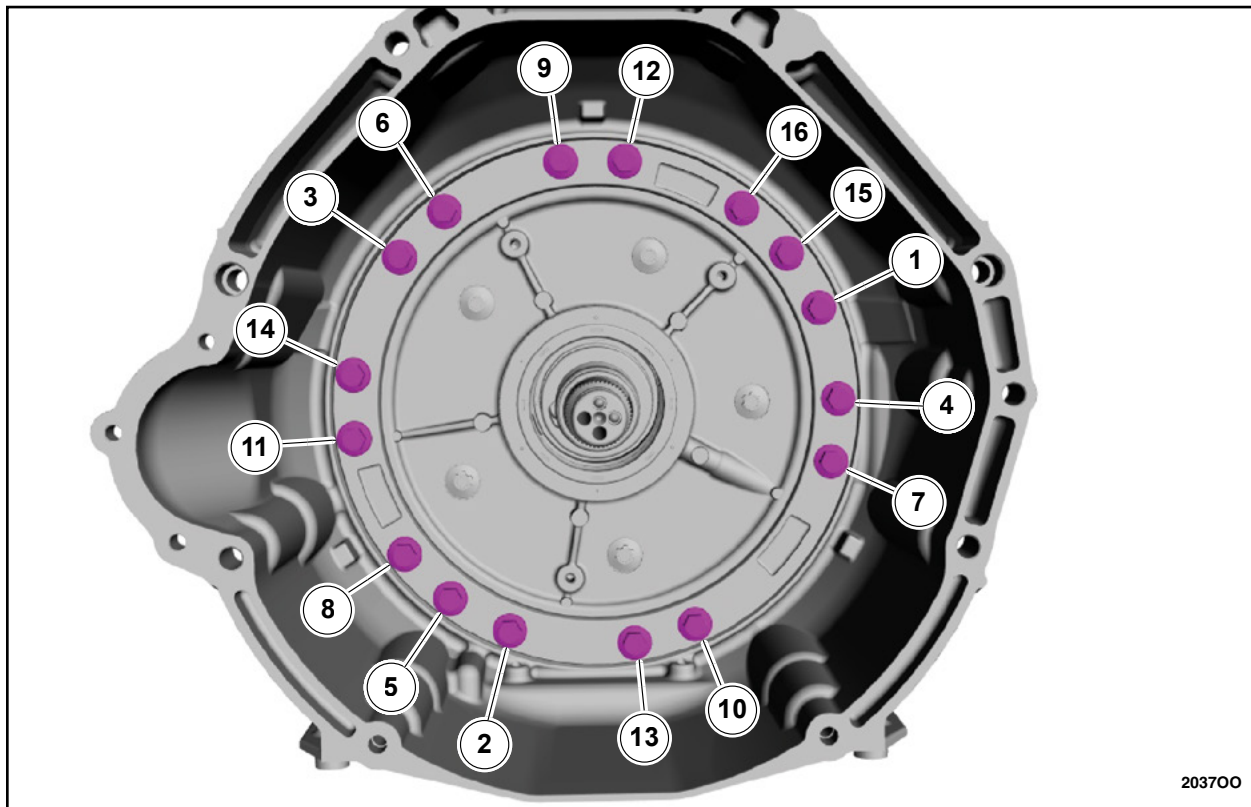

FIGURE 34
36. Tighten the bolts in the sequence shown. See Figure 34.